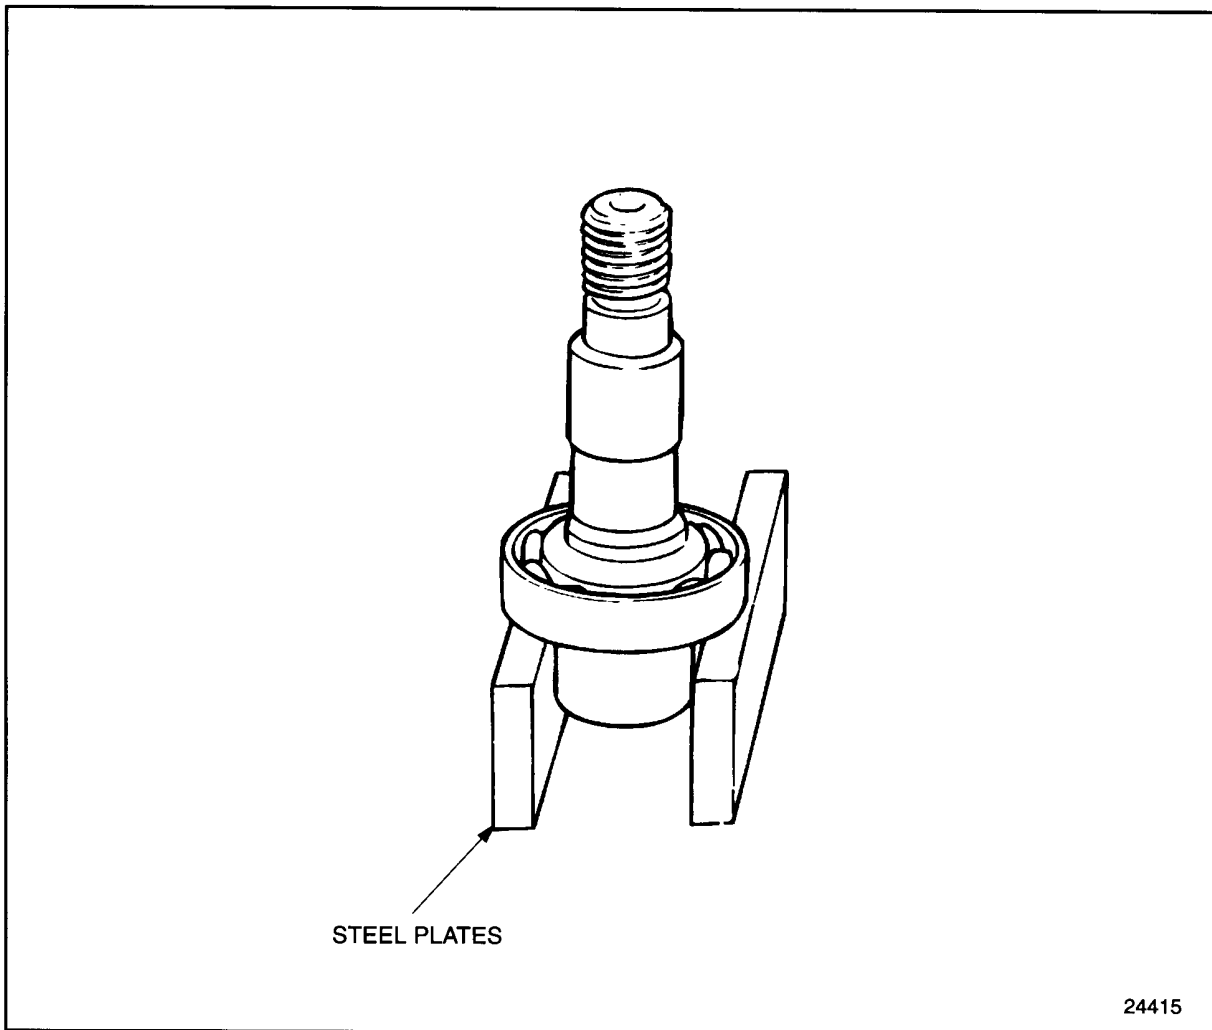

Figure 1-397 Ball Bearing Removal
17. Position two steel press plates under the ball bearing outer race. See Figure 1-397.